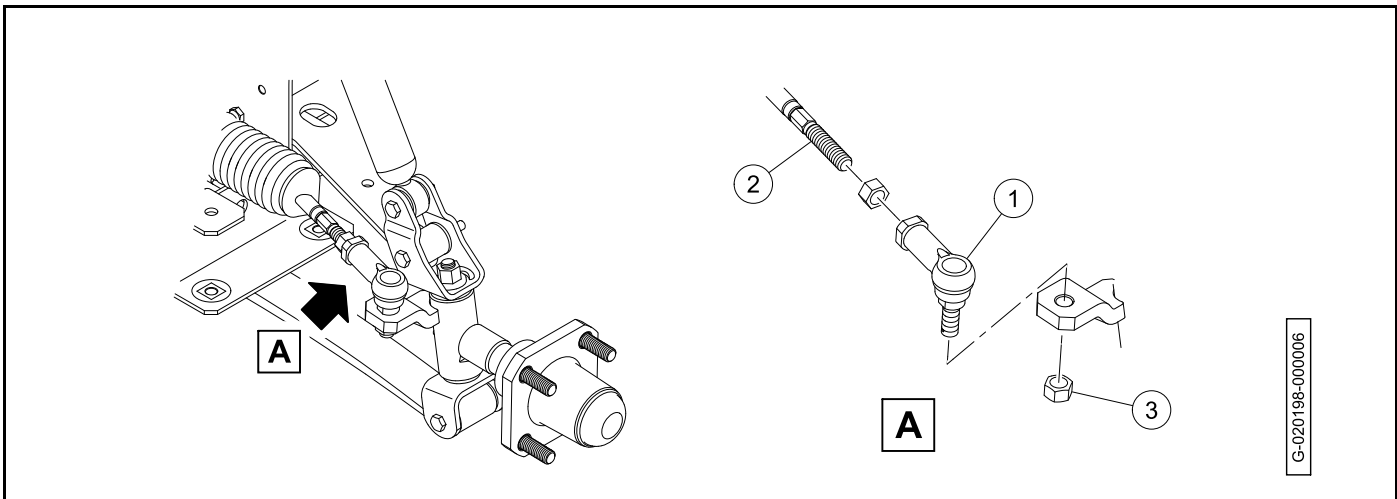

Figure 7-23
1. Install tie rod end (1) onto the drag link (2) to a depth of 1/2 inch (12.5 mm) (**Figure 7-23**).